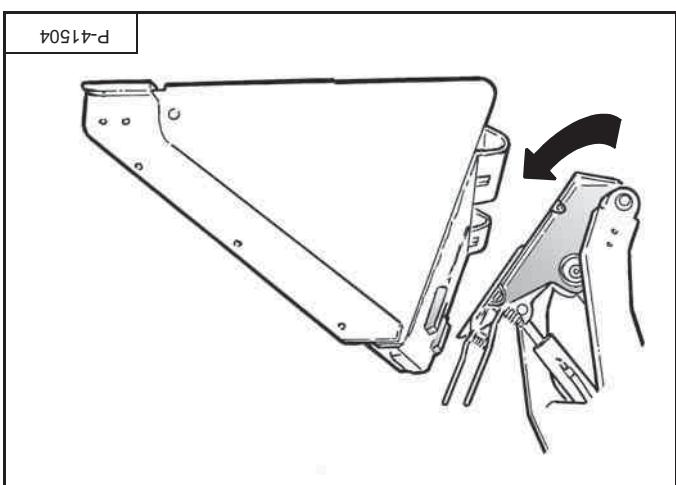

Figure 68
**NOTE:** Be sure the Bob-Tach levers do not hit the attachment mounting frame [Figure 68].
Bob-Tach is completely under the top flange of the attachment mounting frame [Figure 68].
Drive the loader slowly forward until the top edge of the Bob-Tach is completely under the top flange of the attachment mounting frame [Figure 68].